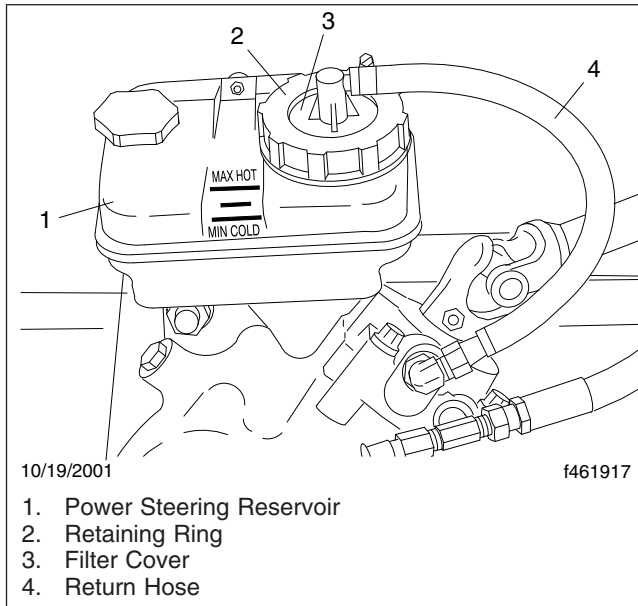

Fig. 2, Power Steering Reservoir
3. Remove the retaining ring from the reservoir. See **Fig. 2**.
7. Using ATF fluid that meets Dexron III or TES-389 specifications, fill the reservoir to the line between the MIN COLD and MAX HOT lines. See **Fig. 2**.